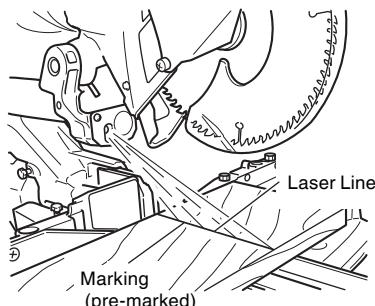

Fig. 21
- (3) After adjusting the position of the laser line, draw a right-angle ink line on the workpiece and align the ink line with the laser line. When aligning the ink line, slide the workpiece little by little and secure it by vise at a position where the laser line overlaps with the ink line. Work on the grooving again and check the position of the laser line. If you wish to change the laser line's position, make adjustments again following the steps from (1) to (3).
**NOTE:** Check and make sure on a periodic basis if the position of the laser line is in order. As regards the checking method, draw a right-angle ink line on the workpiece with the height of about 25/32" (20mm) and the width of 5-29/32"(150mm), and check that the laser line is in line with the ink line [The deviation between the ink line and the laser line should be less than the ink line width (0.5mm)]. (Fig. 21)